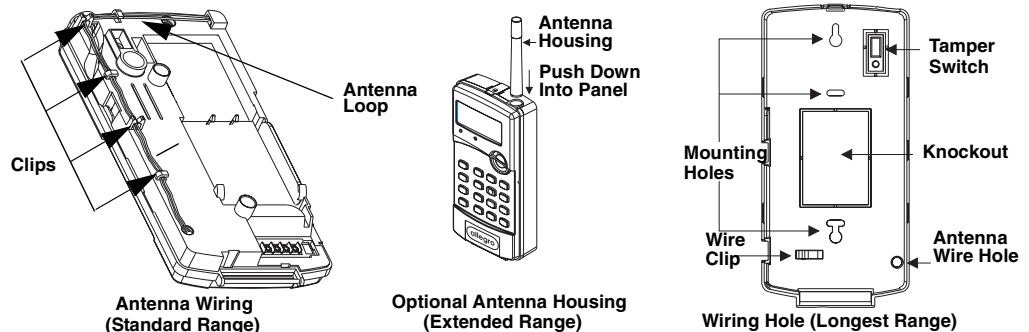

Figure 2. Antenna configurations
- a.Push the antenna housing down into the top right hole of the panel until it snaps into place (see Figure 2).
- a.When you mark the back mounting plate's two mounting holes, also mark where the antenna hole is (see Figure 2 for antenna wire hole location).
- c.Remove the antenna loop (see Figure 2) from the panel cabinet clips and feed through the antenna hole and down into the wall.